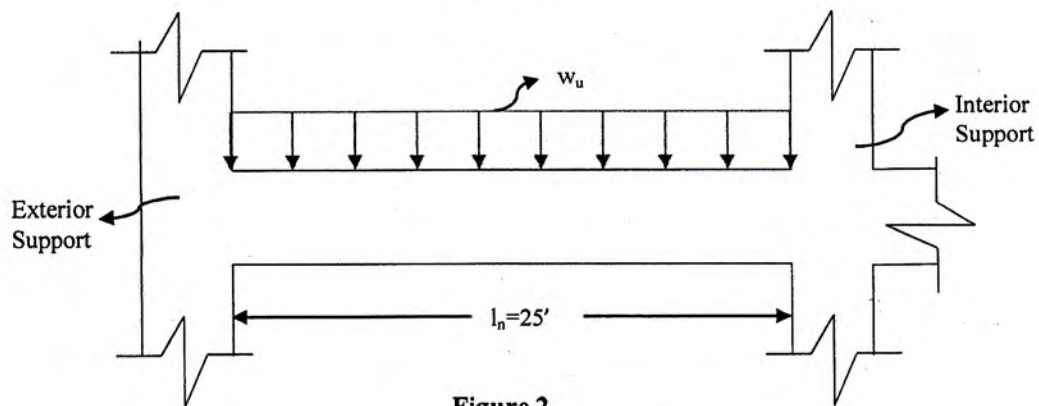

Figure 2
5. (a) The uniformly distributed load on the beam $W_{DL} = 1.6$ k/ft (including self-weight) and $W_{LL} = 3.6$ k/ft. The beam has an $f'_c = 4$ ksi, $f_y = 60$ ksi, $b = 14$ in., $d = 25.5$ in. concrete cover = 2.5 in., and strength of the shear reinforcement is $f_{sy} = 40$ ksi. Determine the shear reinforcement for beam shown in **Figure 2** according to ACI-USD method. Draw the stirrup layout of the beam. (7)